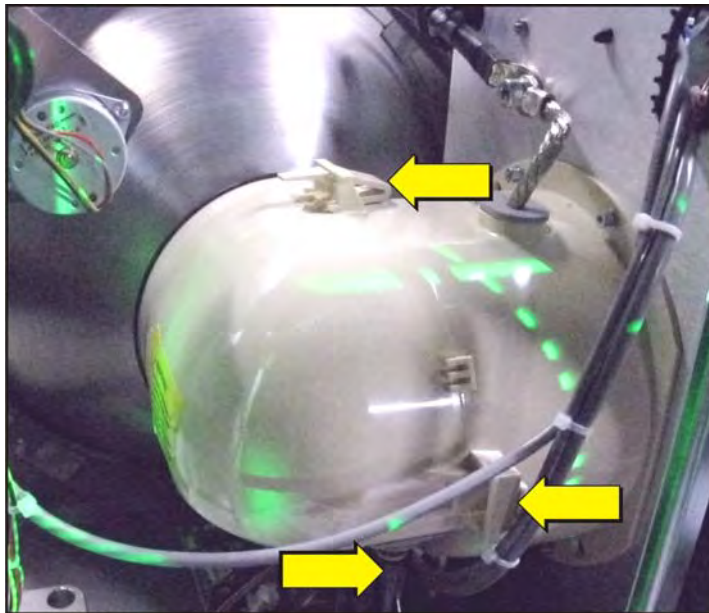

Figure 5-56 Front Lamp Duct
- a. Remove the cathode lamp duct via the three clips. (Figure 5-56)